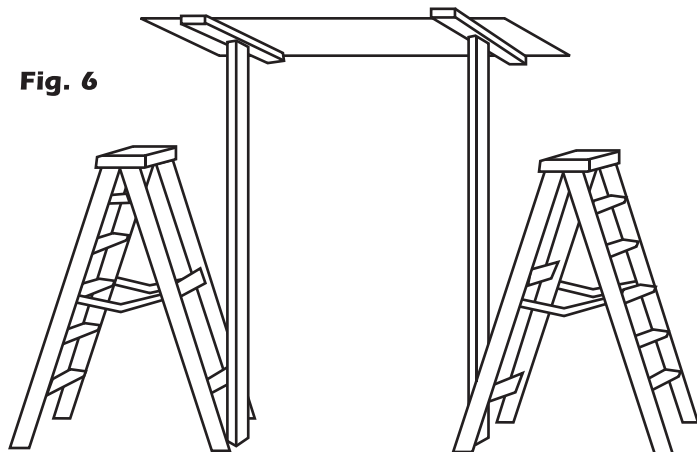

Fig. 6
Step 5- With a helper in the attic, carefully place the stairway onto the top of the stepladders. Have the two ground installers raise the stairway into the rough opening. Secure the door panel tightly against the ceiling with the "T" stands. (See Fig. 6)